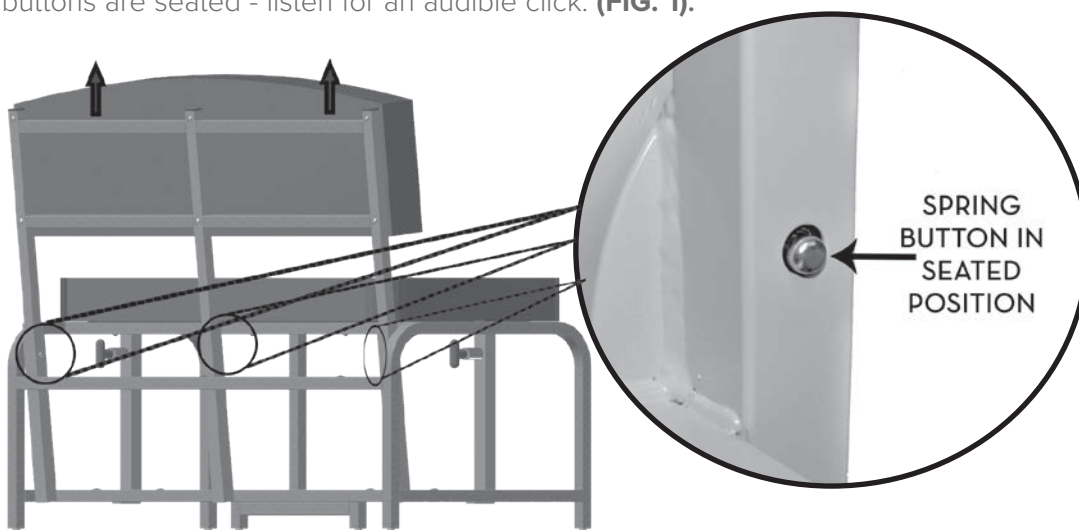

FIG. 1
2. While holding the main frame down, gently pull up evenly on the back frame until the spring buttons are seated - listen for an audible click. **(FIG. 1).**